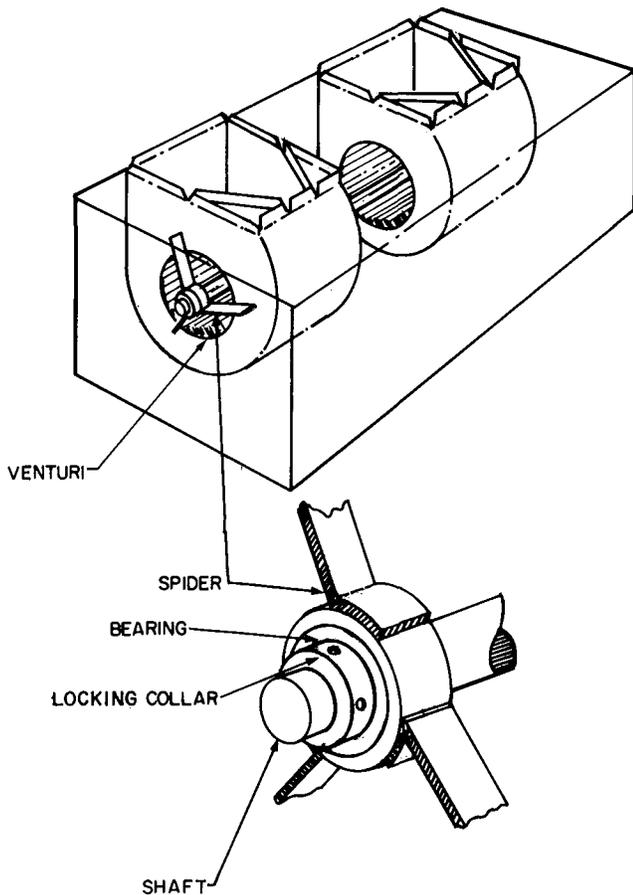

Fig. 12 – Fan Shaft Bearings
Units 50BA, BB008 thru 024 – Shaft bearings are held by a “spider” support, Fig. 12. If shaft and wheels are concentrically misaligned due to shipping shock, it is possible to rebend spider arms to their original position. Spider should be replaced if it has been extensively damaged by shipping shock.
1. Loosen setscrews holding bearing locking collar. One on each end of shaft (Fig. 12 or 13).